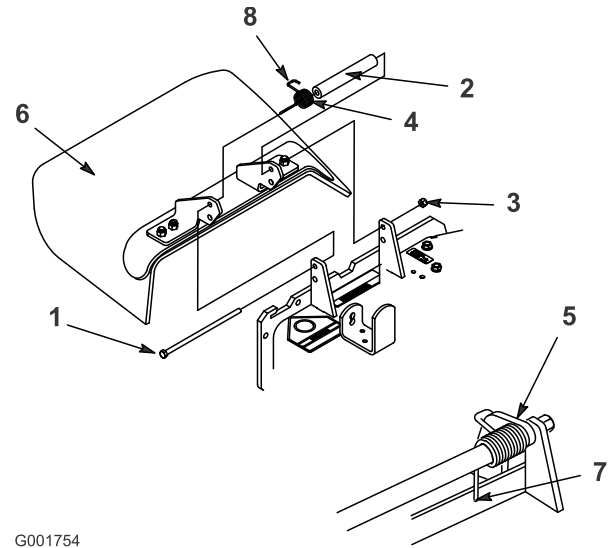

Figure 67
1. Remove the locknut, bolt, spring and spacer holding the deflector to the pivot brackets (Figure 67).
4. Place the J hook end of the spring around the grass deflector (Figure 67).